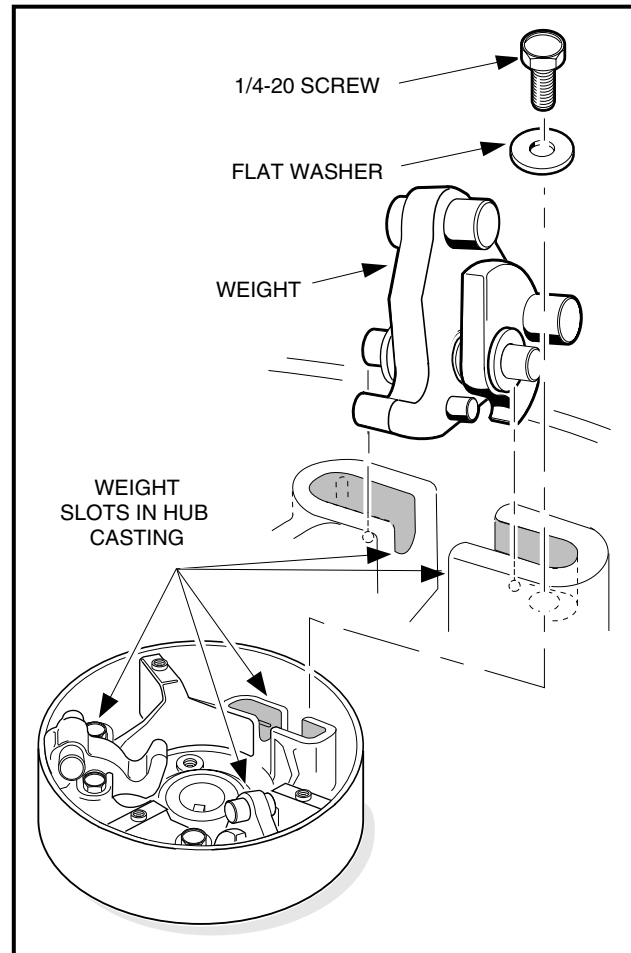

Figure 17-9 Weight Position
- 5.1. Remove the screws and flat washers attaching the weights (**Figure 17-9, Page 17-9**).
11. Install the weight assemblies into the slots in the hub casting (**Figure 17-9, Page 17-9**). Make sure the mounting pin protrudes an equal amount on each side of the weights when the assemblies are in position (**Figure 17-14, Page 17-11**).
15. Install a no. 10-24 button retaining screw with flat washer through each button and into each rib. Tighten the screws to 34 in-lb (3.8 N·m) (**Figure 17-9, Page 17-9**).